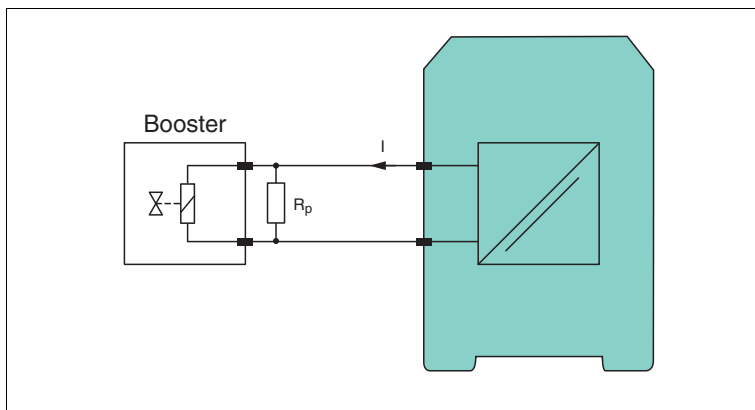

Figure 6.3 Parallel connected resistor near booster valve
1. If the parallel resistance R_p is large, or putting it another way, the closed circuit current I_{quiet} of the valve is low, the capacitor C may under certain circumstances be charged, causing the valve to actuate unexpectedly. The remedy in this case is to connect a $R_p = 4,7 \text{ k}\Omega$ to $10 \text{ k}\Omega$ parallel resistor to the valve terminals (→ see Figure 6.3 on page 15).